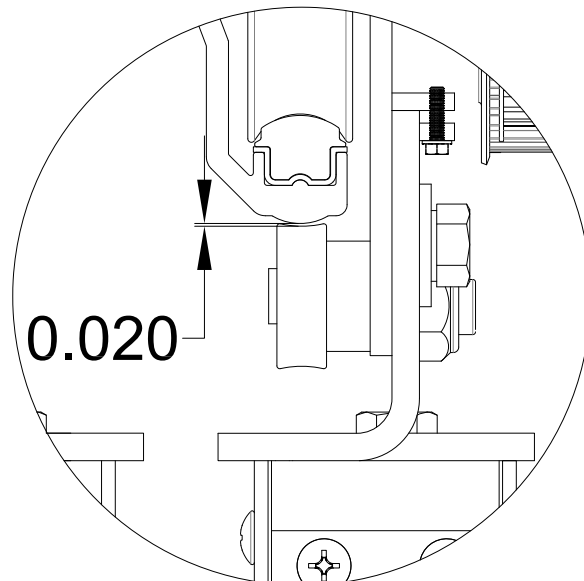

Figure 10A: Adjusting Jump Roller Clearance
6. Adjust jump roller to have approx. .020" Gap from underside of rail (figure 10a).